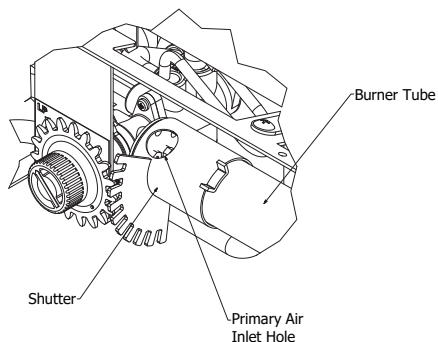

Fig. 21 - Primary Air Inlet Slot on Burner Tube
2. Inspect the burner, pilot and primary air inlet holes on the orifice holder for dust and dirt (See Fig. 21).